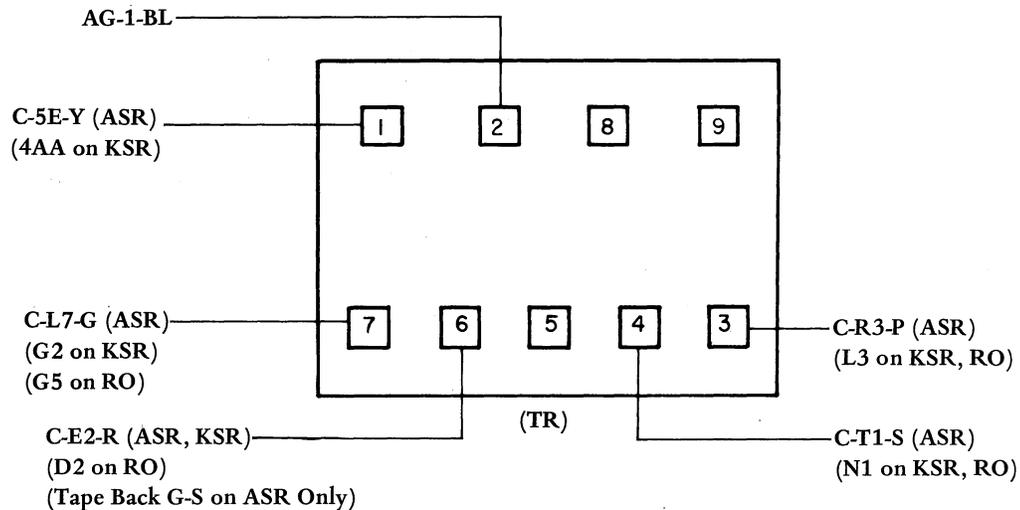

Figure 7 - TP181879 Transformer Connections (10-14-48 v ac)
- (c) Connect transformer cable TP336498 to terminals (Figure 7).